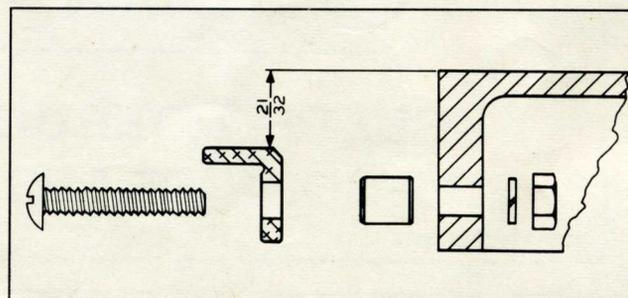

FIGURE 2
The front fence bar must be fastened to the front edge of the saw table with three (3) slotted head screws, No. 11, spacers, No. 12, lock washers, No. 13, and hex nuts, No. 14. See Fig. 2.